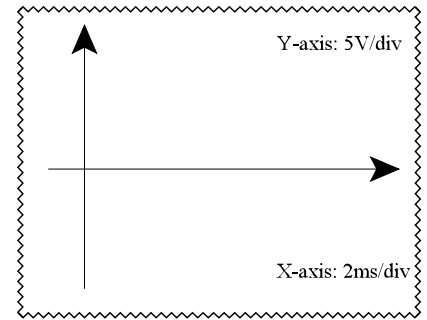

Fig. 3
A. Draw the output voltage waveform of the circuit on the scope screen shown in Fig. 3.